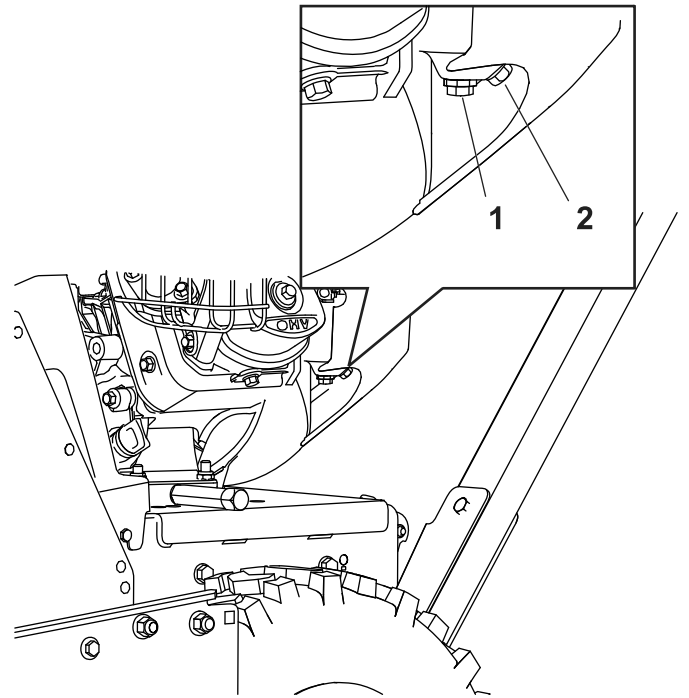

**Figure 30**
4. Examine the plug for wear and damage (Figure 30).
5. Check the spark-plug gap with a wire gauge (Figure 30).